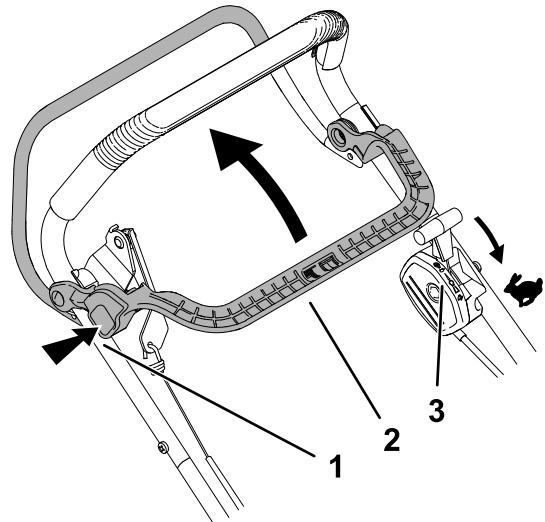

Figure 16
1. Ensure that the throttle control lever is in the FAST position (Figure 16).
2. Press the blade-brake clutch (BBC) latch button and pull the BBC control lever back against the handle (Figure 16).